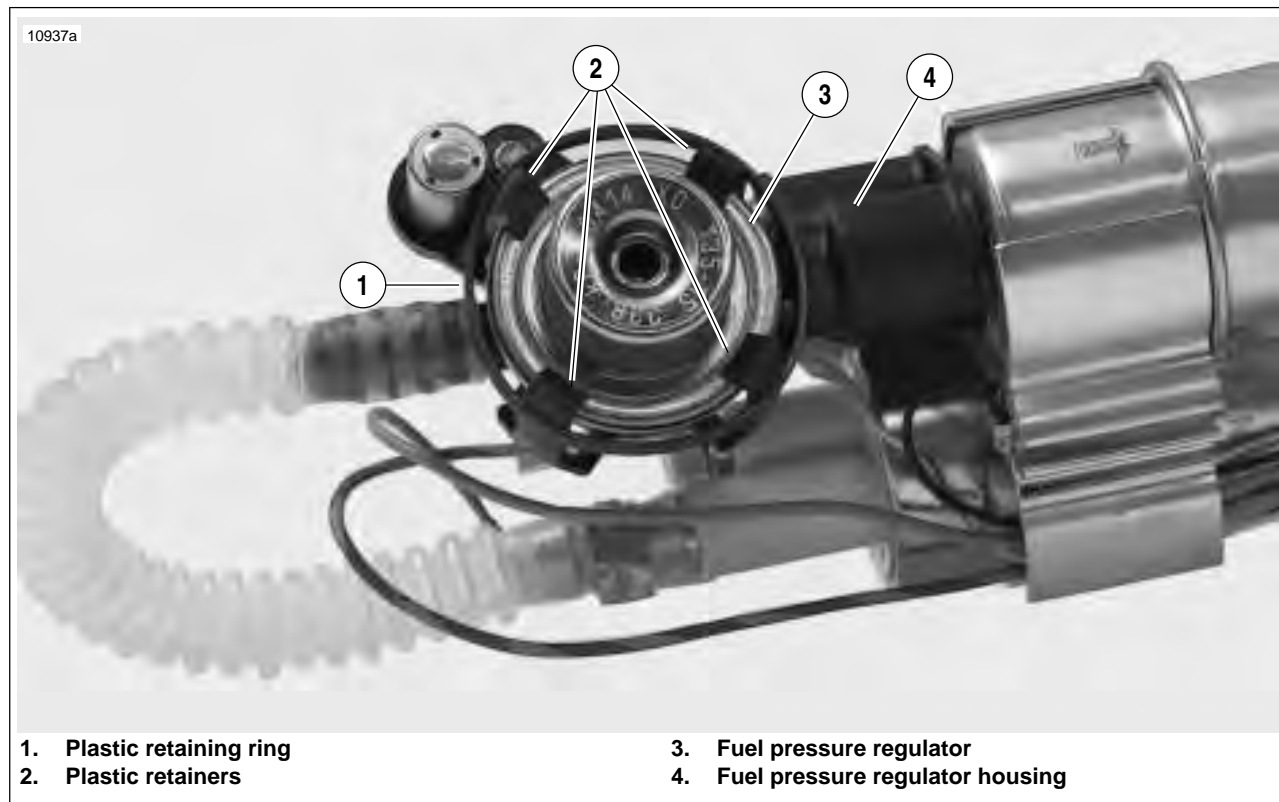

Figure 4-98. Fuel Pressure Regulator
2. See Figure 4-98. Remove the plastic retaining ring (1) securing the four plastic retainers (2) holding the fuel pressure regulator (3) in place. Spread the four clips and detach regulator (3) from regulator housing(4).